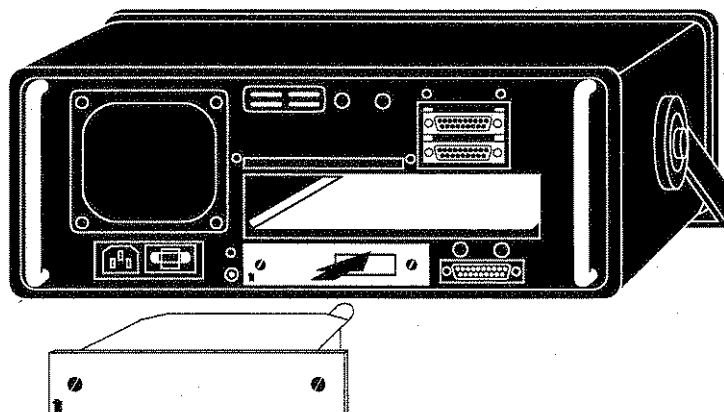

Figure 3-1
To install the DS3 Interface Module, use the procedure immediately following Figure 3-1.
2. Facing the FIREBERD's rear panel, position the Module as shown in Figure 3-1 (faceplate facing out).